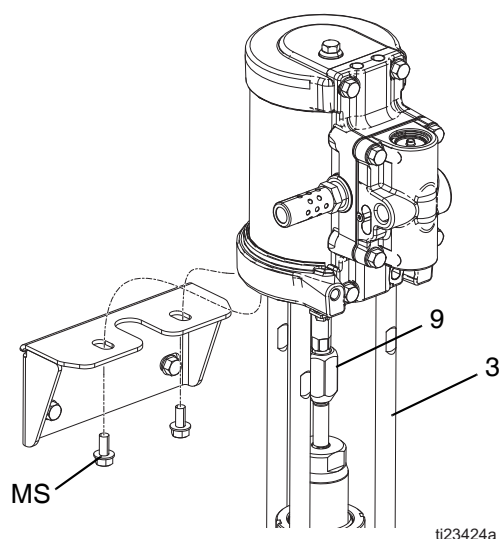

FIG. 3: Disconnect Air Motor
3. See FIG. 3. Use a socket to remove the top two mounting screws (MS).